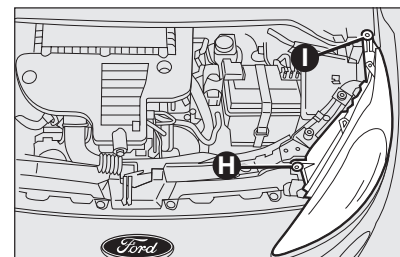

fig. 14
- after raising the bonnet, unscrew bolts **H** and **I** located at the points shown in **fig. 14**;